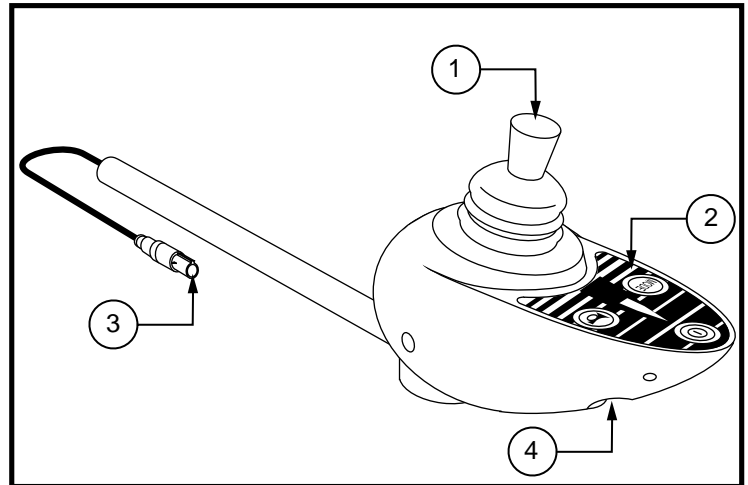

Figure 33. Remote Plus Master Remote
- master remote (see figure 33)